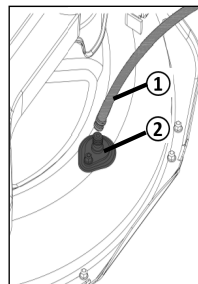

Figure 33
1. Connect the water hose (Figure 33 ①) to the cleaning washport (Figure 33 ②) and turn on the water.